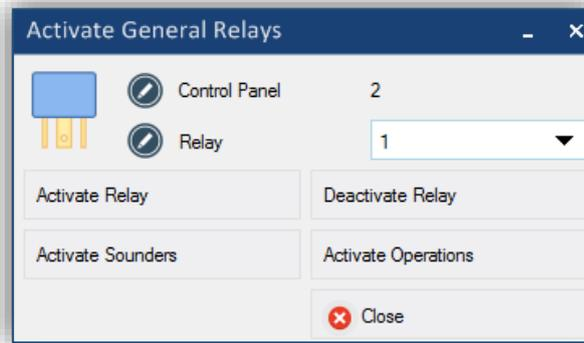

Figure 59. Menu to activate/deactivate logical relays in the control panel.
- The figure 59 shows the activate/deactivate menu of logical relays configured in the control panel. To enter, click on the **Activate relays** button .